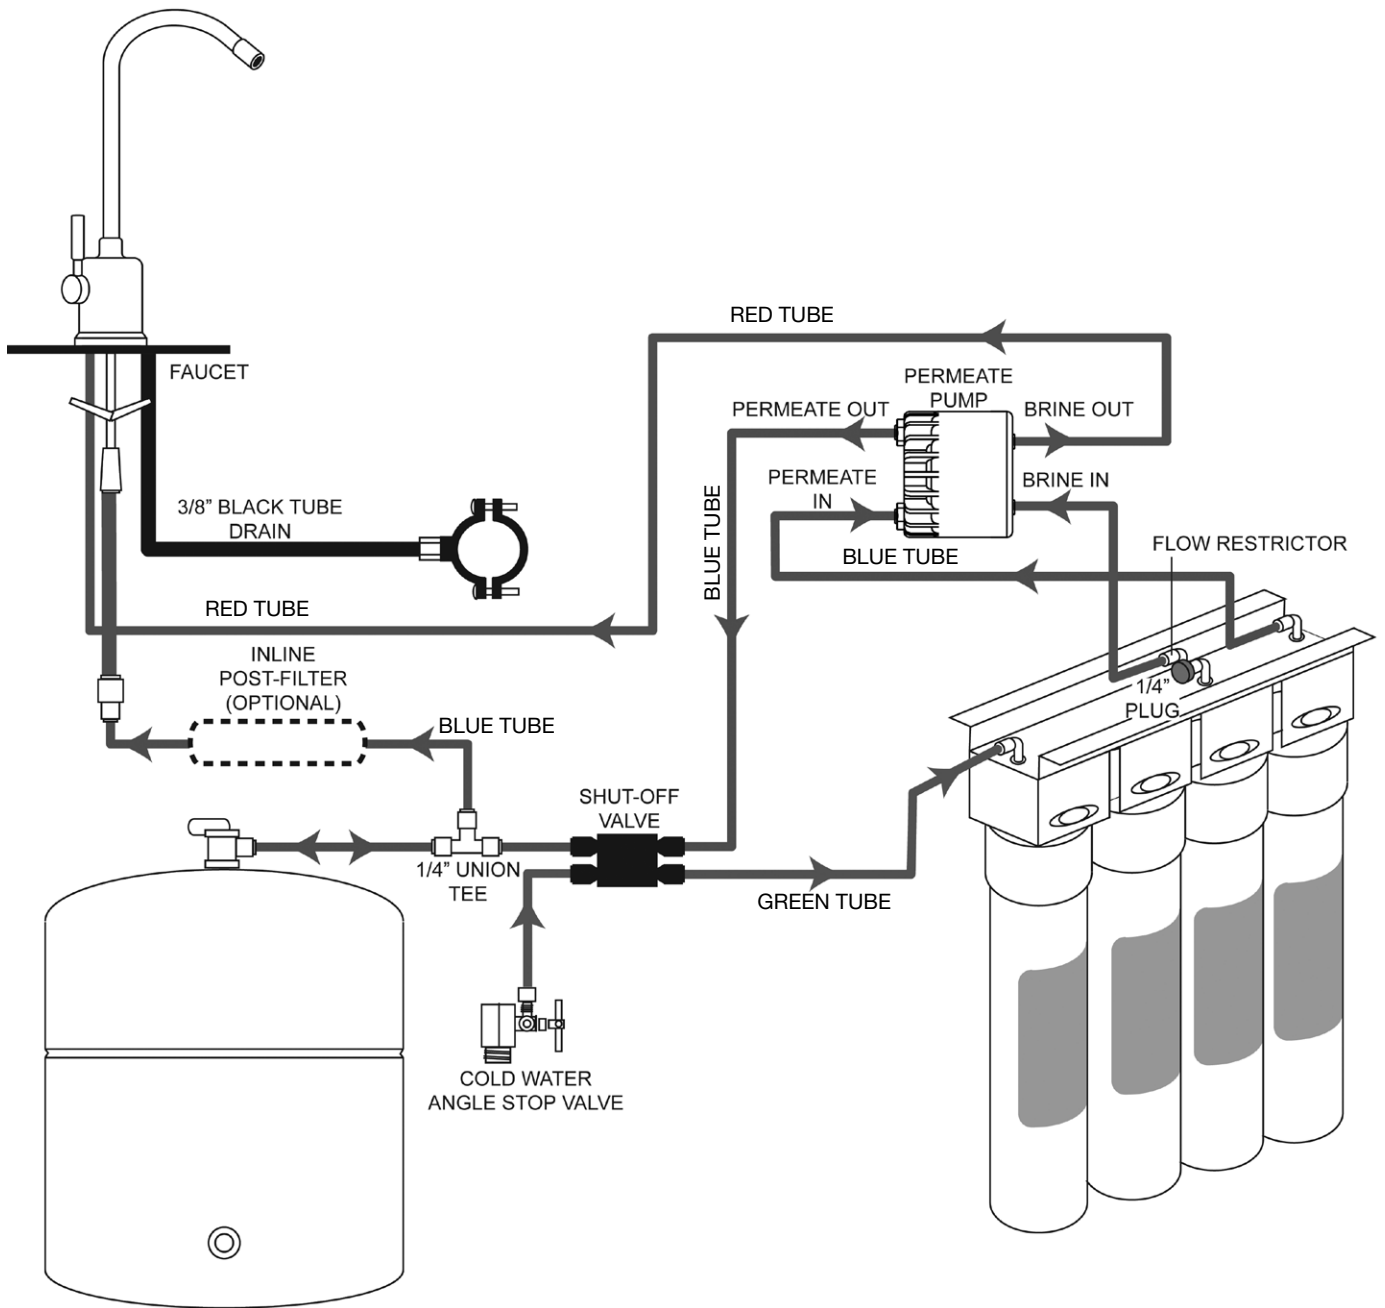

Figure 3: KWIK-CHANGE RO after installation of Permeate Pump
12. Make sure your installation matches the diagram shown in Figure 3